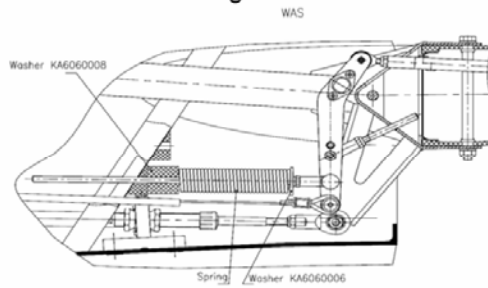
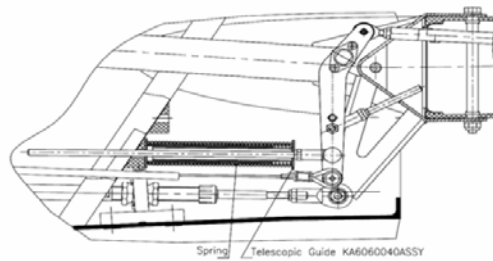

Fig. 2 (Old)
Fig. 3 (New)
- A. The new spring is longer than the original (37 (Fig 3) windings instead of 35 windings). The original one is too short and must not be used.(Fig 2)
- B. The movement of the original, shorter spring is limited at one end by a plastic spacer (KA6060008) and at the other end by a washer (KA6060006) (Fig 2). These parts are also not reused.